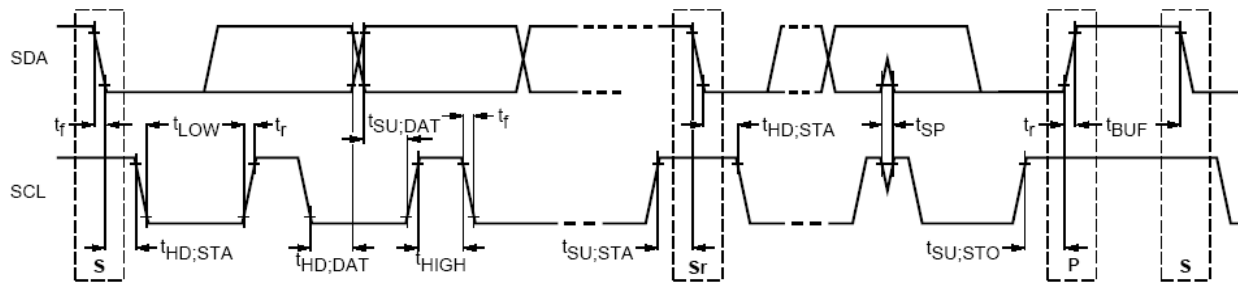

Figure 3. Definition of Timing for Full-Speed Mode Devices on the I2C Bus
| $t_{HD,DAT}$ | Data Hold Time (see Figure 3)                                     | 0                     | 0.9  | $\mu\text{s}$ |
| $t_{SU,DAT}$ | Data Set-up Time (see Figure 3)                                   | 100 (13)   |      | ns            |